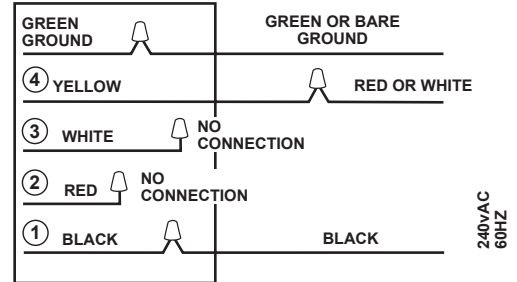

FIGURE 5
3. For 240 Volt operation, make wiring connections as shown in Figure 5.